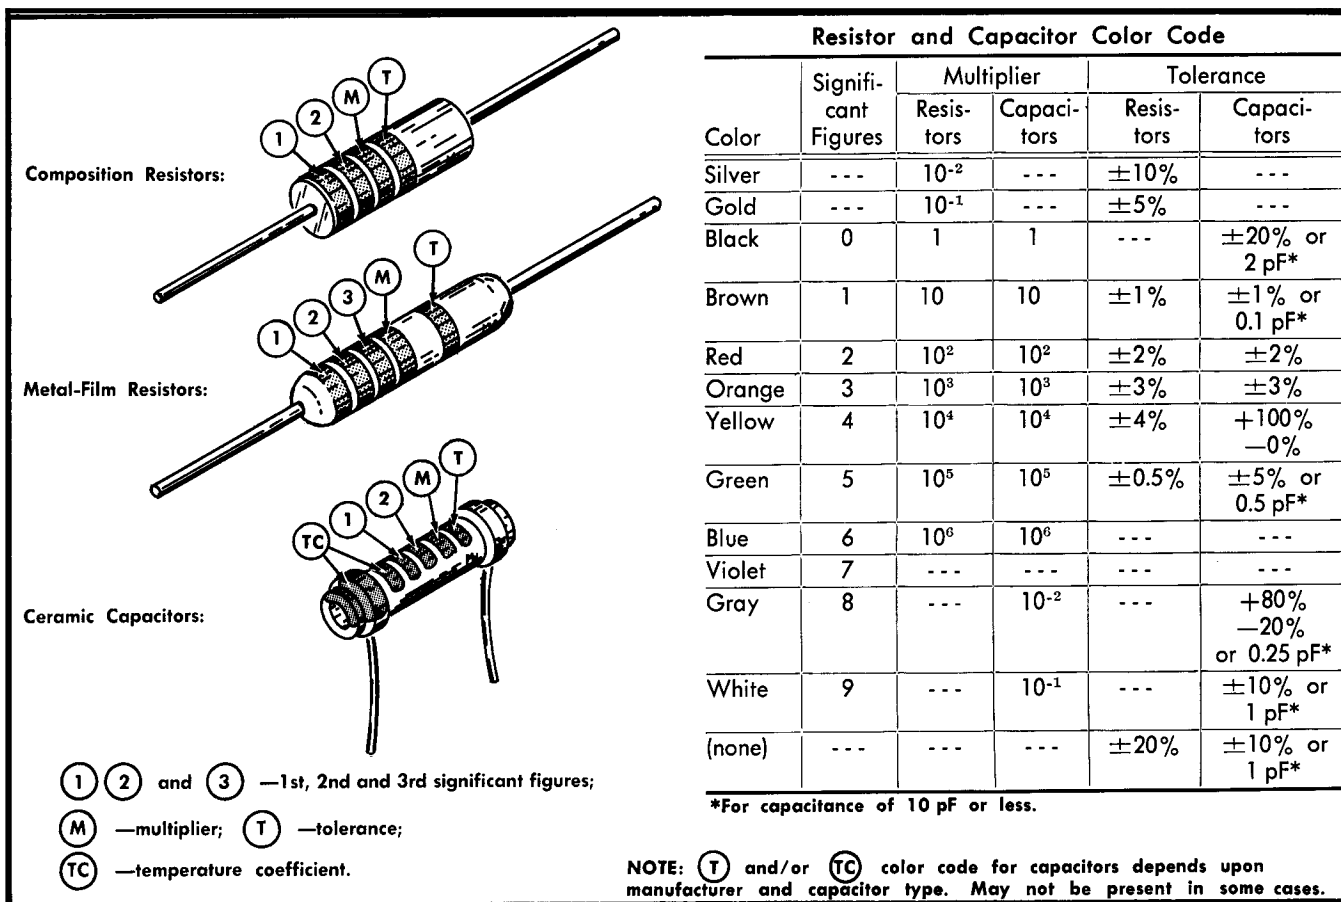

Fig. 4-2. Color code for resistors and ceramic capacitors.
The first two methods translate to the IEEE color-code equivalent and are illustrated in Fig. 4-2.
**Capacitors.** The capacitance value of a common disc capacitor or small electrolytic is marked in microfarads on the side of the component body. The white ceramic capacitors are color coded in picofarads using a modified IEEE code. See Fig. 4-2.